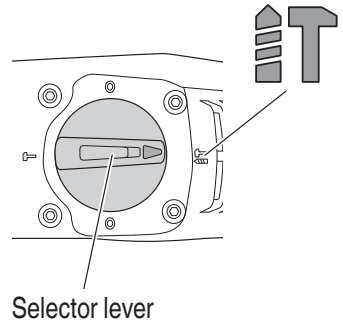

Fig. 9
- (1) Switching to “rotation + hammering”
- (b) Align  of the selector lever and  of the crank cover as illustrated in **Fig. 9**.